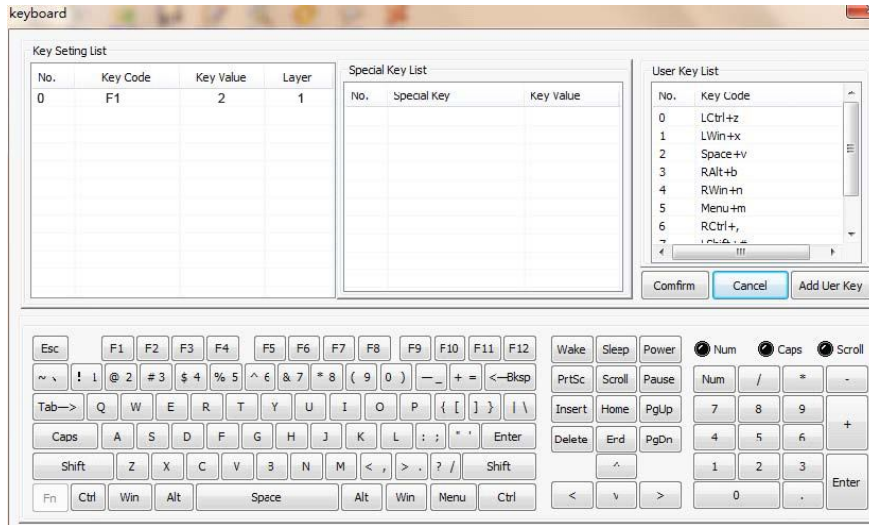

Figure 3.1.3
**Step 2.** Select layer you want to program, please select “Layer 1” for example and click F1 on blue key. It will pop up the virtual keyboard interface, *Figure 3.1.3*. In key Setting List, the Key Code still show F1.